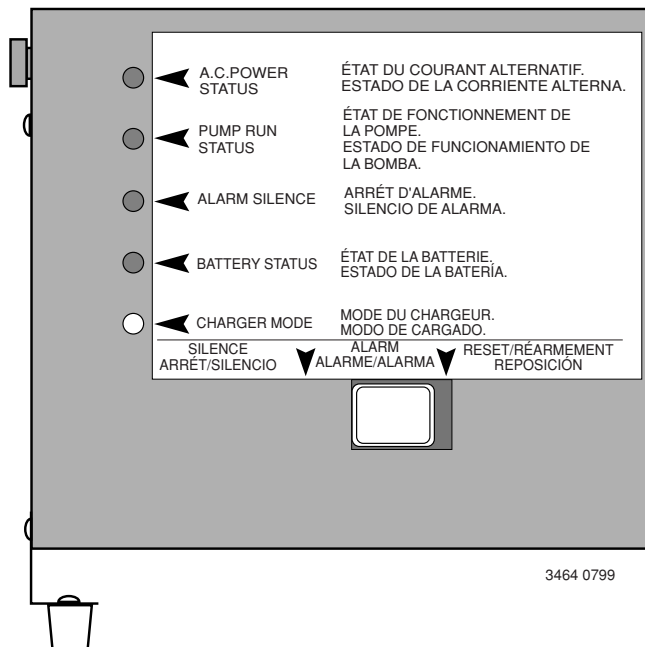

Figura 9 – Tablero DEL A5500
3. With the charger properly connected and plugged in, the panel on the front of the charger will show one or more of the following conditions (Figura 9).